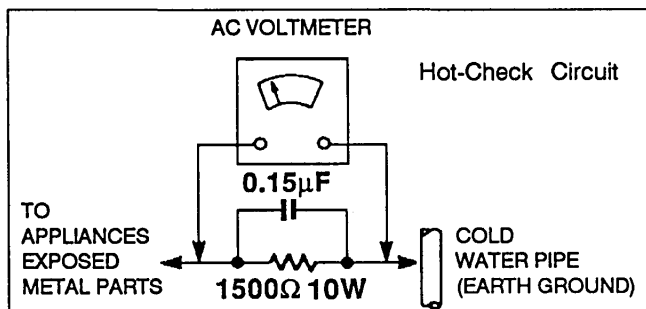

Figure 1
(See Figure 1)
2. Connect a 1.5k ohm, 10 watts resistor, in parallel with a 0.15uF capacitor, between each exposed metallic part on the set and a good earth ground such as a water pipe, as shown in Figure 1.